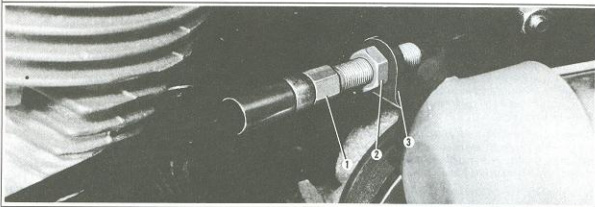

Figure 4-2. Adjusting Clutch
ADJUSTING FOOT CLUTCH CONTROL (Figure 4-2)
ADJUSTING HAND CLUTCH CONTROL (Figure 4-2)
Loosen control coil adjusting sleeve locknut (2) (Figure 4-2) and turn control coil adjusting sleeve (1) all the way into bracket. Remove chain housing cover, loosen clutch push rod screw locknut (4) and turn screw (5) in (clockwise) to remove lever (8) to the rear, or outward (counterclockwise) to move end of lever forward. When 1/2 in. clearance between lever and starter motor has been attained, tighten locknut (4) and reinstall chain housing cover.
If the clutch slips after adjusting clutch control, increase spring tension on the three clutch spring guide stud nuts (6, Figure 4-2). Remove clutch cover and tighten all three nuts one-half turn at a time until clutch holds. Test after each half turn by cranking the engine. Usually a clutch that holds without noticeable slipping when cranking the engine will hold under normal road conditions. Do not increase spring tension any more than is necessary to make clutch hold.